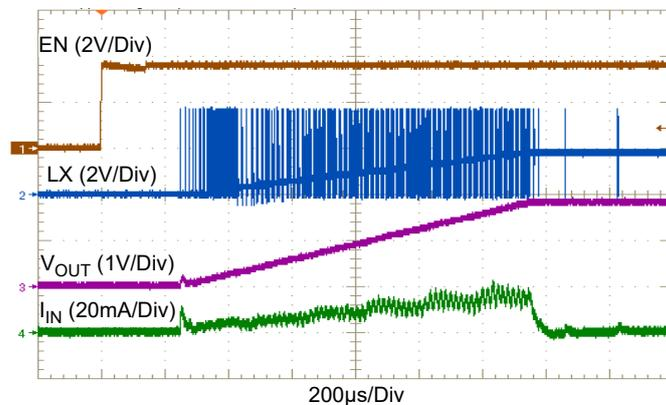

Figure 2. ISL9123/A Start-Up with  $V_{IN} = 3.6V$  and  $V_{OUT} = 1.8V$
Use the following procedures to configure and power-up the board for proper operation. During the power-on process, the expected waveforms are shown in Figure 2.
6. Monitor the output voltage start-up sequence on the scope. The waveforms should look similar to those shown in Figure 2.